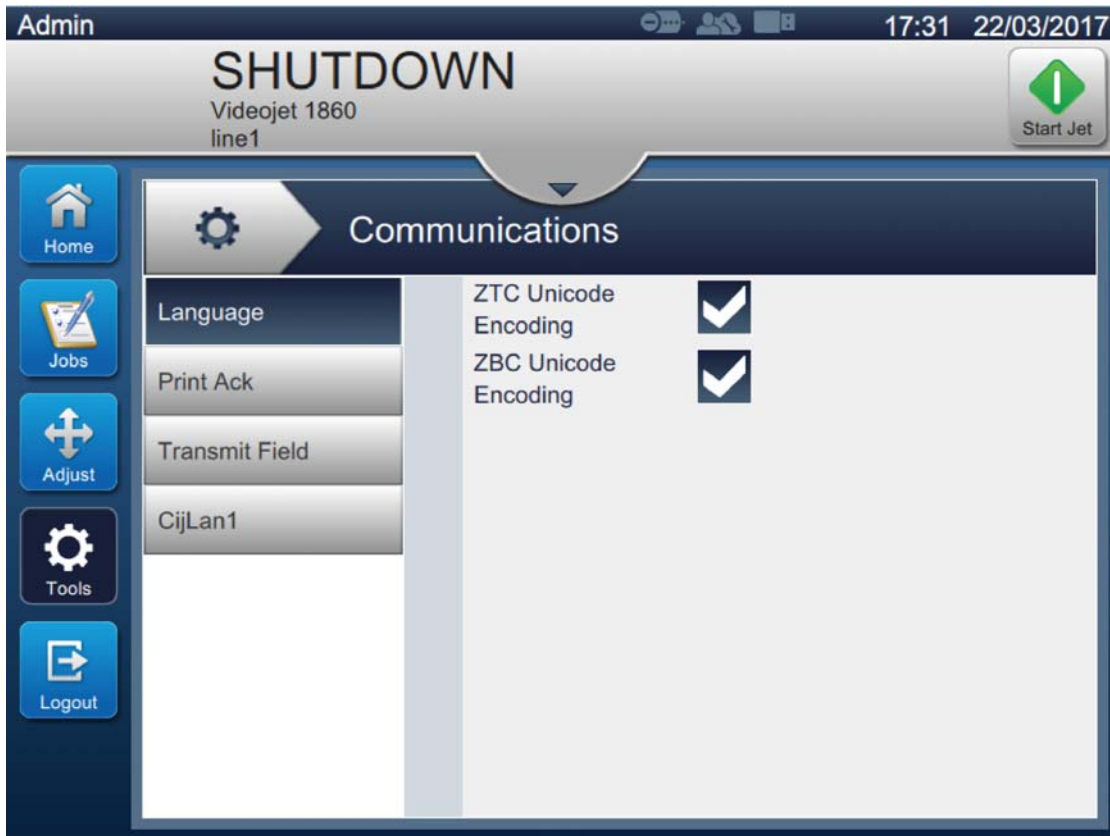

Figure 6-16: Communications Screen
1. Touch the  button from the Tools screen. The Communication screen opens as shown in the Figure 6-16.